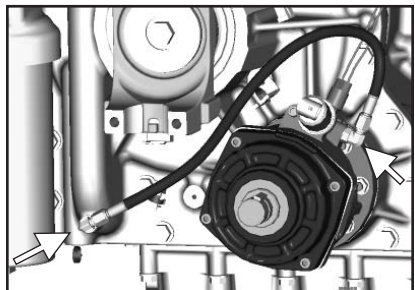

Fig. 18
7. Install the 90° elbow in the transmission pressure port as shown. Connect hose to the transmission pressure port as shown. Connect other end of hose to the P.T.O. 90° elbow located near the P.T.O. solenoid. (**Fig. 18**)